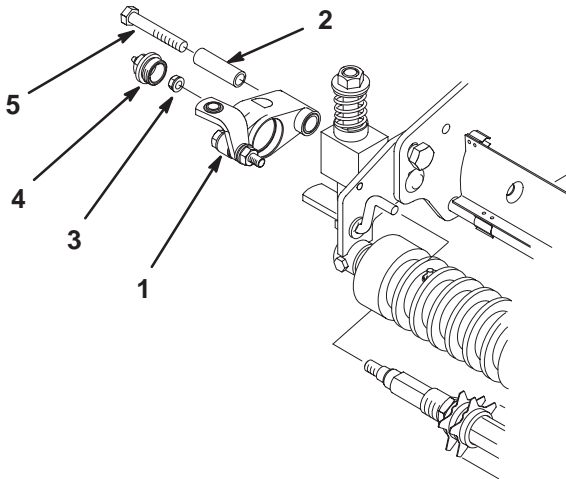
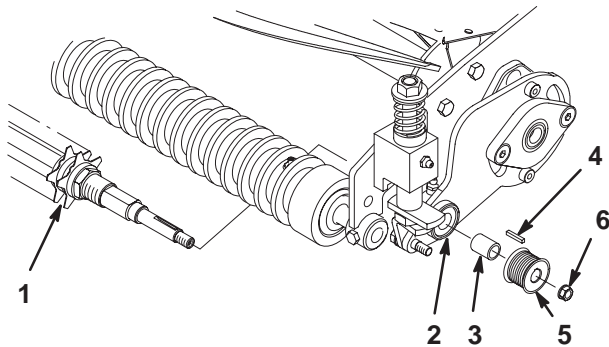

Figure 5
Figure 6
14. Remove the cap plug w/grease fitting from the bearing housing (Fig. 5). Retain the cap plug for future assembly.
15. Insert the non-keyed end of the groomer reel shaft into the bearing housing (Fig. 5) while inserting the keyed end of the groomer reel shaft through the pivot plate bearing (Fig. 6).
16. Insert the pivot spacer through the bushings on the bearing housing (Fig. 5).
17. Insert the flange head capscrew (M10 x 70 mm) through the pivot spacer and secure it to the cutting unit side plate and shield rod (Fig. 5).
18. Secure the groomer shaft to the bearing housing with a locknut (M10) (Fig. 5).
19. Install the cap plug w/grease fitting into the hole in the bearing housing (Fig. 5).
20. Slide a spacer (0.482 in. long) onto the keyed shaft end (Fig. 6).
21. Install the key (Fig. 6) into the shaft keyway and slide the driven pulley onto the shaft. Secure the assembly with a nut (M10).